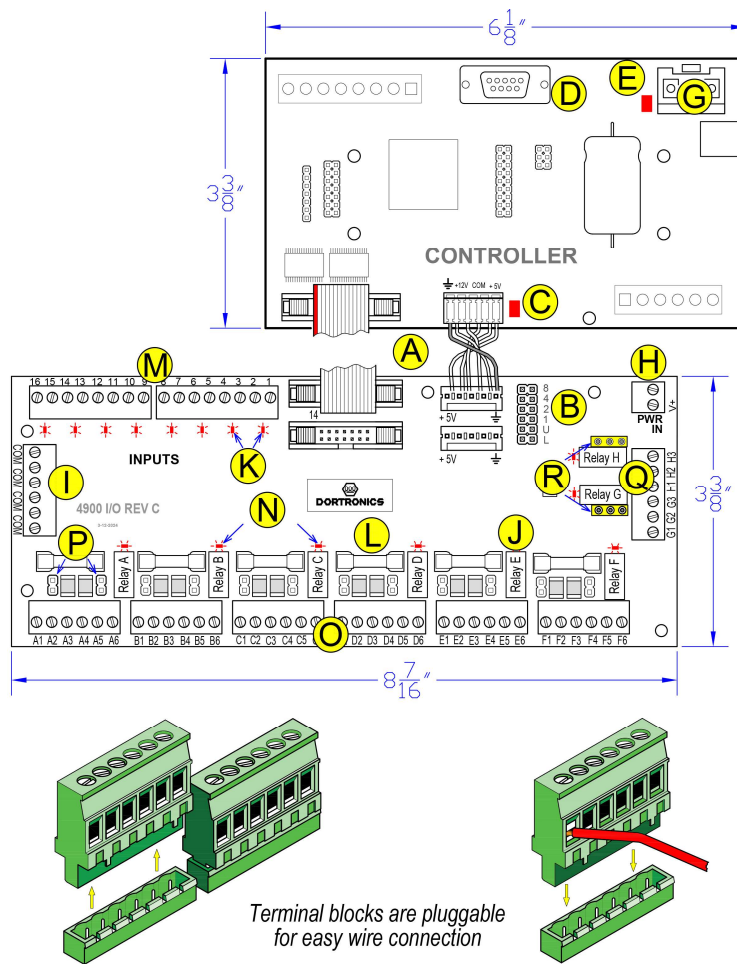

FIG. 1
Connect locks to the desired relay contacts (N.C. or N.O.) by pluggable terminals. See Figure 1 (I). Relay outputs A-F are selectable for dry or wet contacts. Install jumper at 2 pin header (shown at right) to power locks and lights directly. If external power is to be switched, **remove all wet contact jumpers**. Relays G and H are dry contact only. Unplug terminal block for better view.
The PLC status is continually monitored. A watchdog LED (see Fig 1 - C) blinks rapidly (at a rate of 3 times per second) to indicate that a program is loaded and is being executed correctly. If the watchdog indicator is not blinking, verify that there is 12 or 24 VDC at the correct power terminals. If power is present and the watchdog indicator is not blinking, or blinking slowly, contact Dortronics for technical assistance.